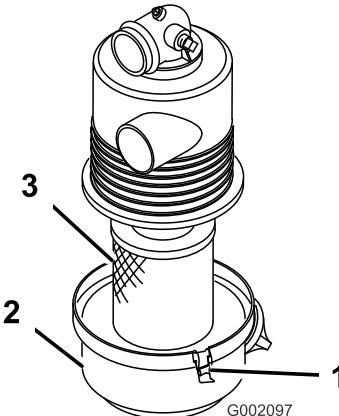

Figure 28
2. Release the latches securing the air-cleaner cover to the air-cleaner body (Figure 28).
3. Separate the cover from the body, and clean the inside of the air cleaner cover (Figure 28).
- Insert the filter into air cleaner body (Figure 28).
- Align the air-cleaner cover with the air-cleaner body (Figure 28).
- Secure the cover to the air-cleaner body with the latches (Figure 28).